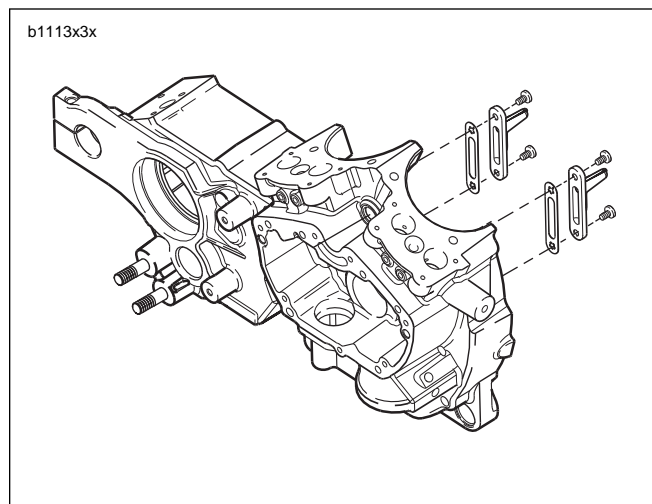

Figure 3-137. Piston Oil Jet Assemblies
1. See Figure 3-137. Remove two TORX screws from each piston jet assembly to free piston jets from right crankcase.